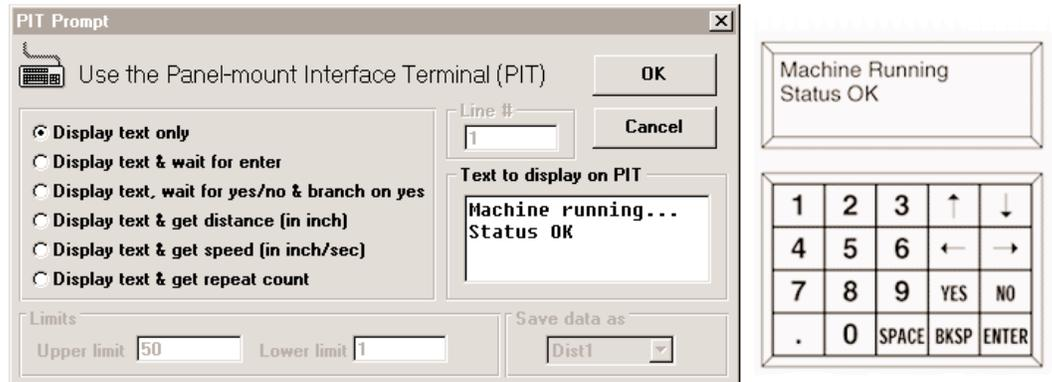

Figure 36 - DISPLAYING A MESSAGE ON PIT
**TO DISPLAY A MESSAGE ON THE PIT (SEE FIG. 36):**